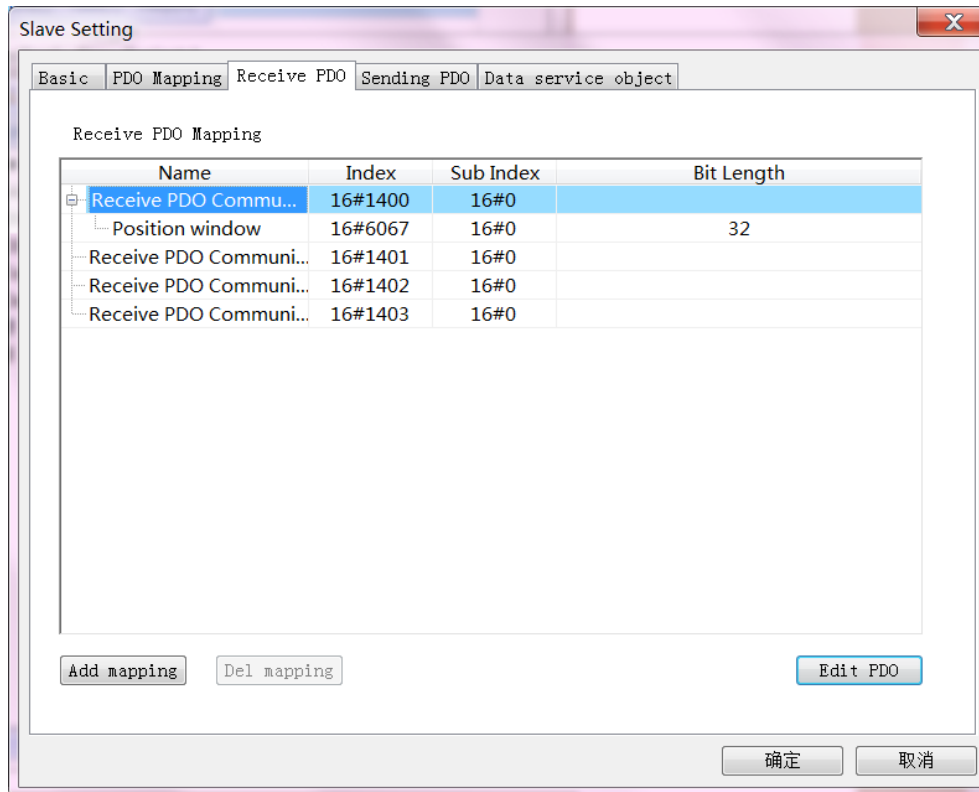

Figure 7-5
- 6) Configure the slave to receive the PDO and add the mapping parameter index as Figure 7-5 shows;